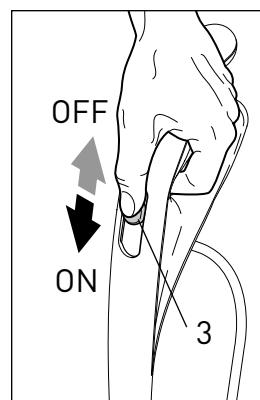

Figure 5
3. Turn the On/OFF switch (3) downward to the ON position - see figure 5.